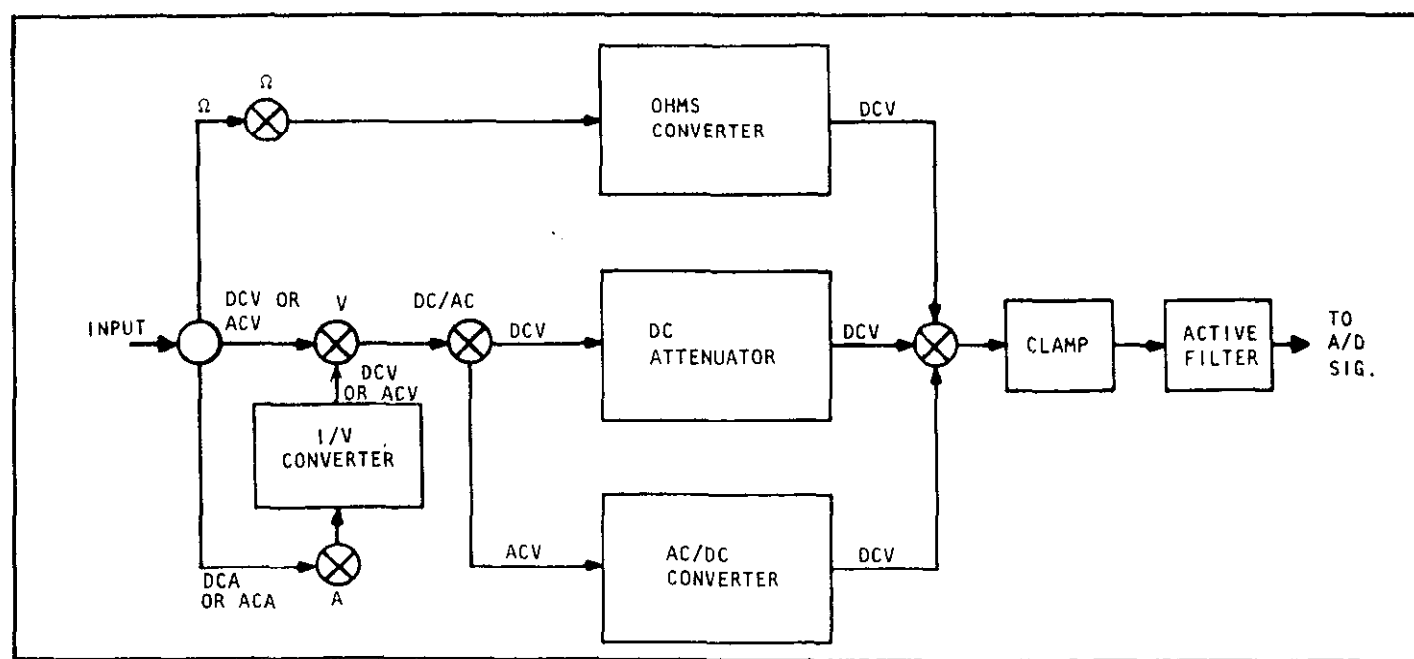

FIGURE 5-2. Simplified Block Diagram of Signal Conditioning Circuits.
a. Overall Operation. Signal routing in the signal conditioning circuitry is essentially as shown in the simplified block diagram (Figure 5-2). Front panel switching selects the applicable path for the input signal. For example, an ac current input would be routed through switch "A" to the I/V converter. The ac voltage output from the I/V converter would be routed through the "V" switch and the "DC/AC" switch to the AC/DC converter, and the dc voltage output of this circuit would then be routed to the AD converter through the clamp and active filter. The required switching and signal conditioning for an ohms or voltage input can also be readily determined from the diagram, and is left to the user. The front panel switching and signal conditioning circuits will be described in greater detail in the following paragraphs.